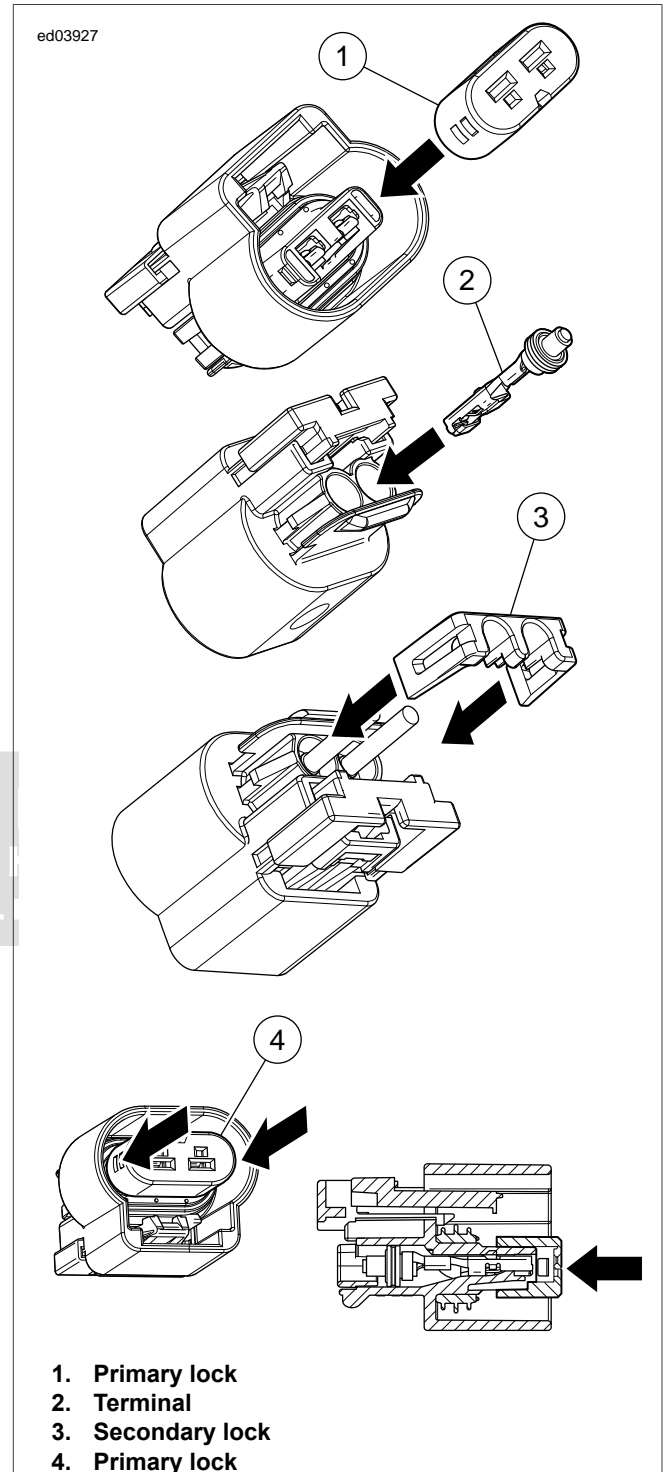

Figure B-7. Terminal Installation
1. See Figure B-7. Insert the primary lock into the outer most position on the connector.